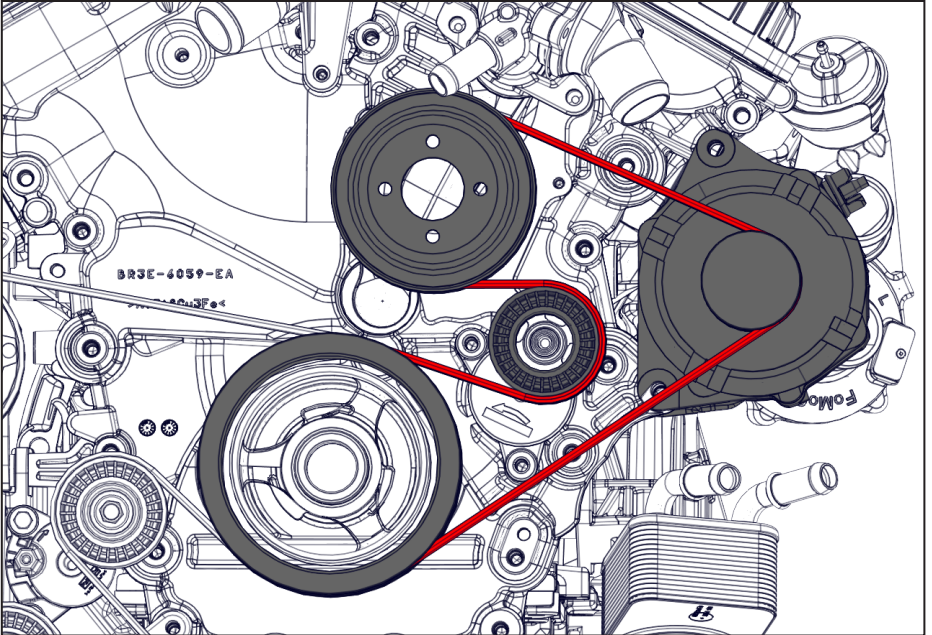

Figure 30 — 6 rib belt routing
- Reinstall the OEM 6 rib belt and tension it (Figure 30).